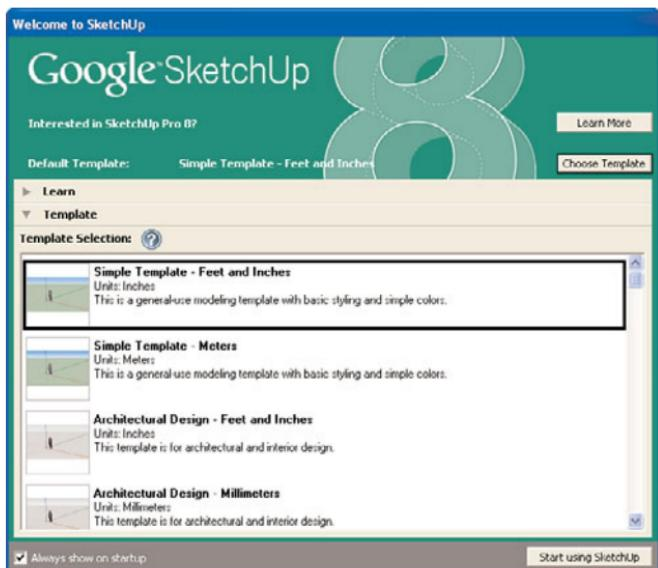

FIGURE 2.6 Selecting a template.
2. Click the **Choose Template** button. The template you select will determine the drawing background (if any) and the units of the drawing (feet, meters, and so on). You need to select a template before SketchUp will start, and the template you choose will become your default template the next time you open SketchUp. When you click the **Choose Template** button, a list of templates appears, as shown in Figure 2.6.
3. Click the top template to select it, as shown in Figure 2.6. We'll use other templates in the following lessons, but the Simple template gives us a blue sky, green Earth, and a person standing in the middle for scale—a good template to get started with.